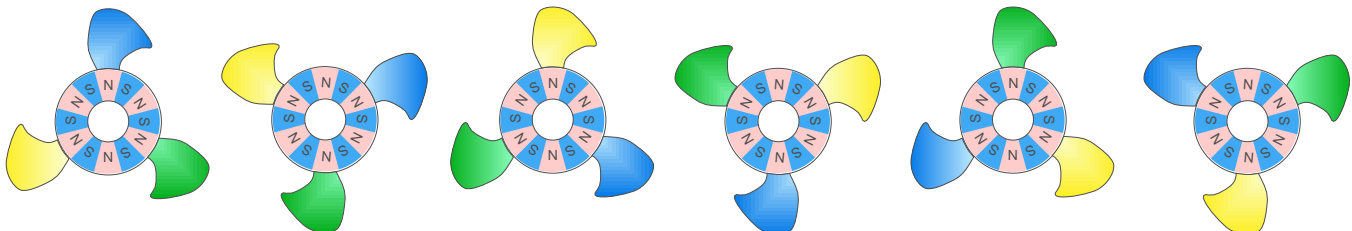

Figure 65. Multiple Motors
- Step 3. Count the number of settle-down positions, which is the number of pole pairs. Multiplying by two calculates the number of poles (In Figure 65, there are six pole pairs in the motor).